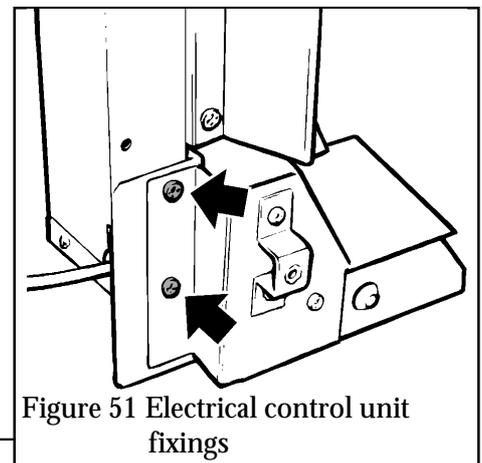

Figure 51 Electrical control unit fixings
- 15.9.2** Detach the control unit from the convection box left side flange by removing two screws (see figure 51). Carefully pull the unit slightly forward.